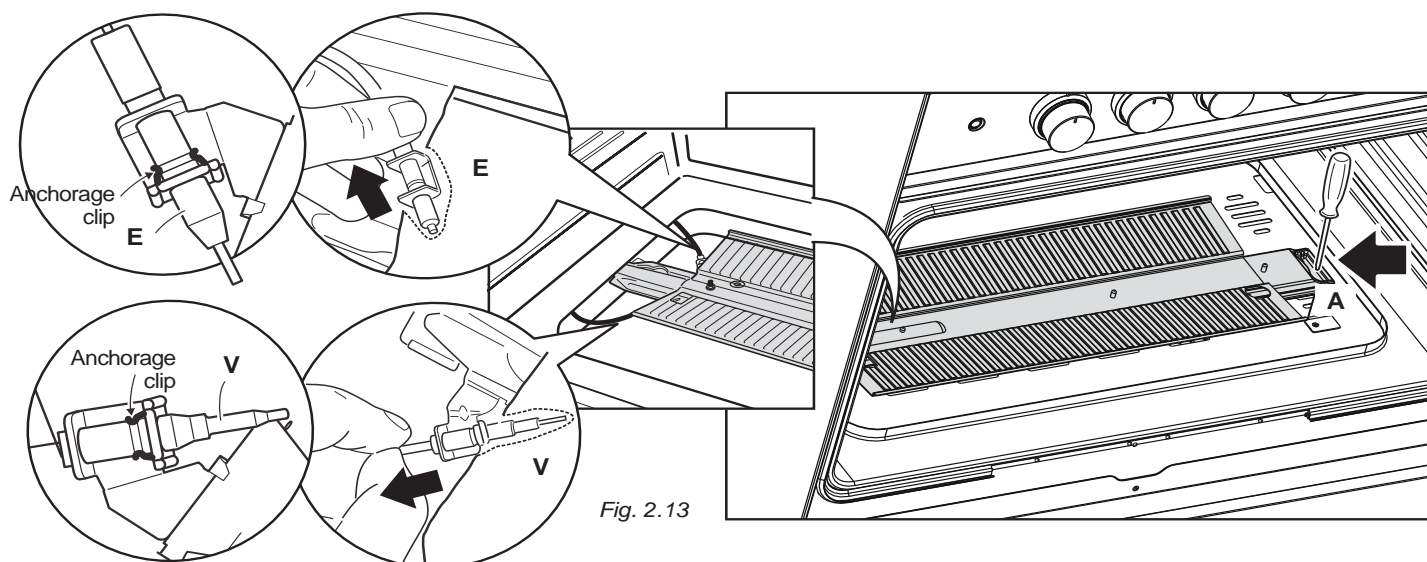

Fig. 2.13
- Gently unlock, from the burner, the safety valve probe “V” and the ignition electrode “E” (as indicated in fig. 2.13). Take care not to damage the probe and the ignition electrode.
- Unscrew and remove the burner securing screws “A” (fig. 2.13).
- Using a 7 mm box spanner, unscrew the injector (indicated by the arrow in fig. 2.13) and replace it with a new one selected in accordance with the “Injectors table”.
IMPORTANT: Pay special attention to replace correctly the safety valve probe “V” and the ignition electrode “E” as per figure 2.13. Check the correct operation of the safety valve and the ignition electrode.